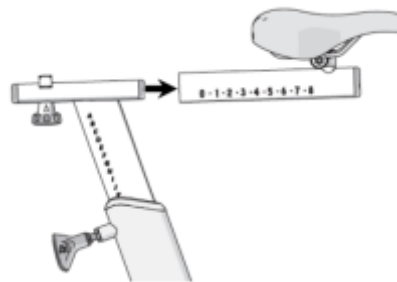

Figure 3
- 4 Remove the seat slider assembly, see Figure 3.